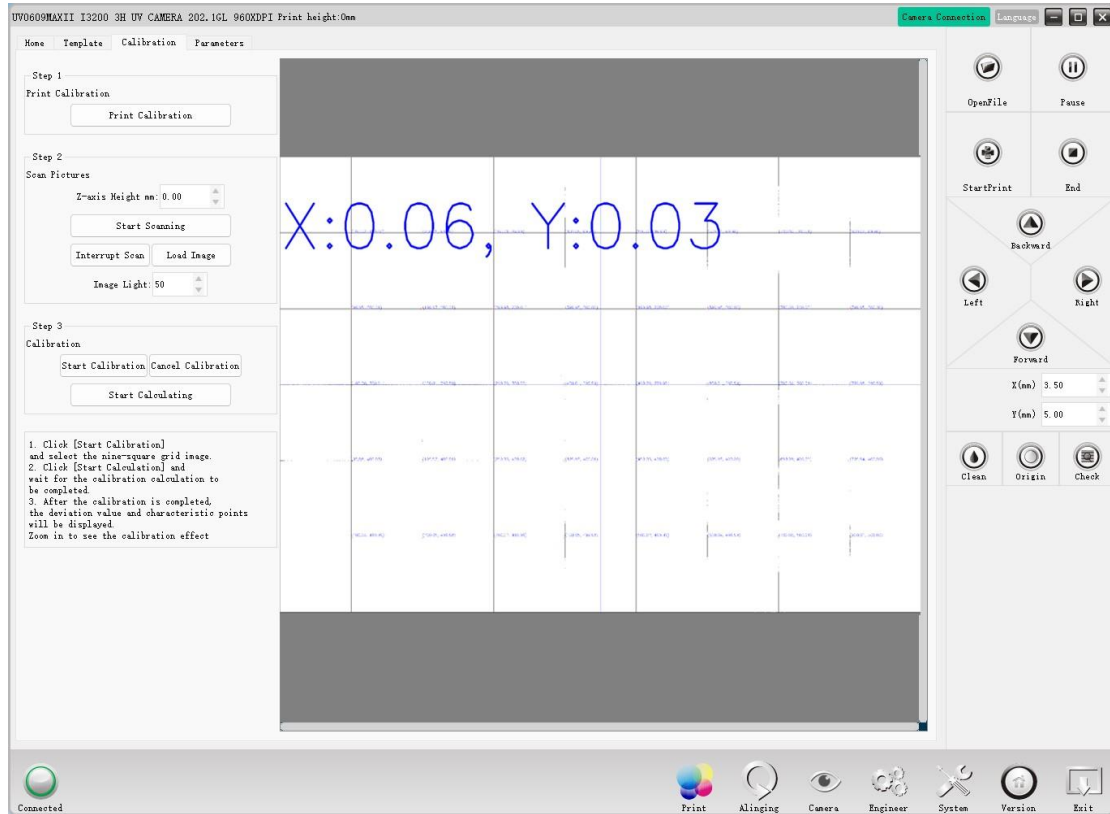
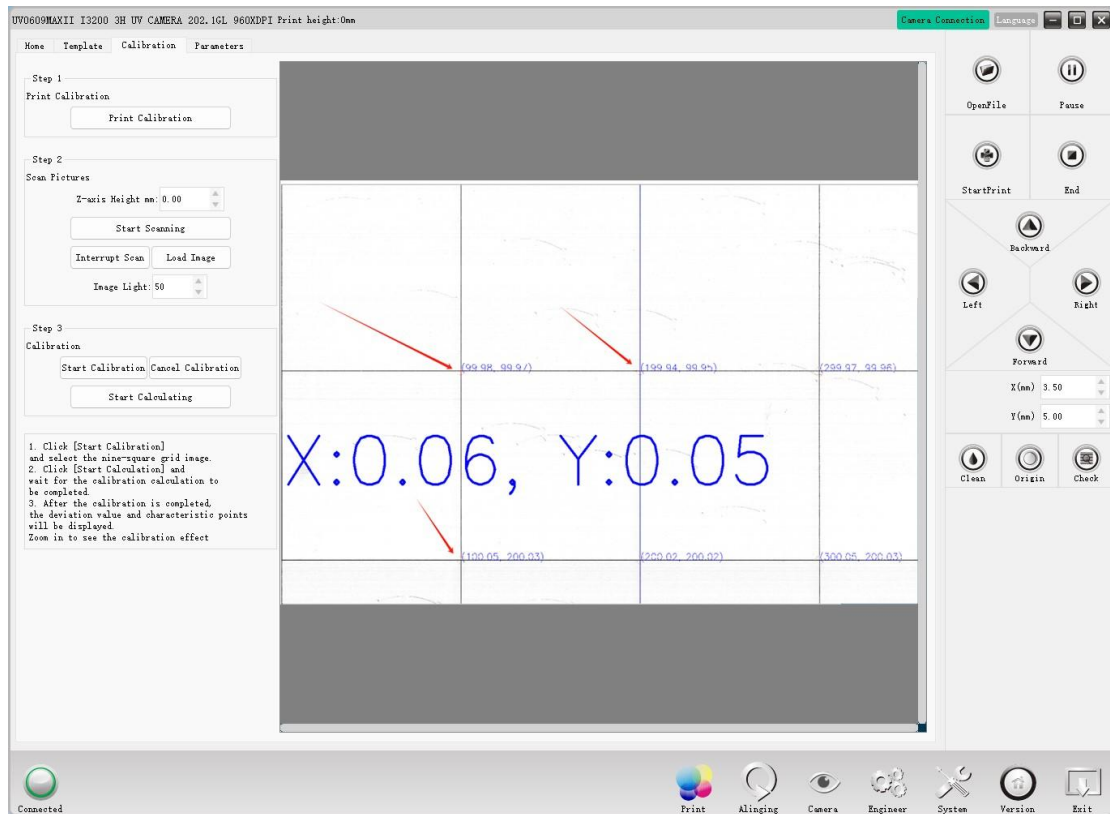

Figure 5-2 Calibrate coordinates
Figure 5-3 Calibrate coordinates
6. Check whether blue marker is progressing in units of 100mm, the normal calibration will return 5 × 8 intersection point coordinates, and the outermost group of intersection points will not generate coordinates; As shown in Figure 5-2 and Figure 5-3;
7. After the calibration is completed, the excess part outside the grid will be cut off, and the picture will be displayed as the identified locatable area, as shown in Figure 5-2.